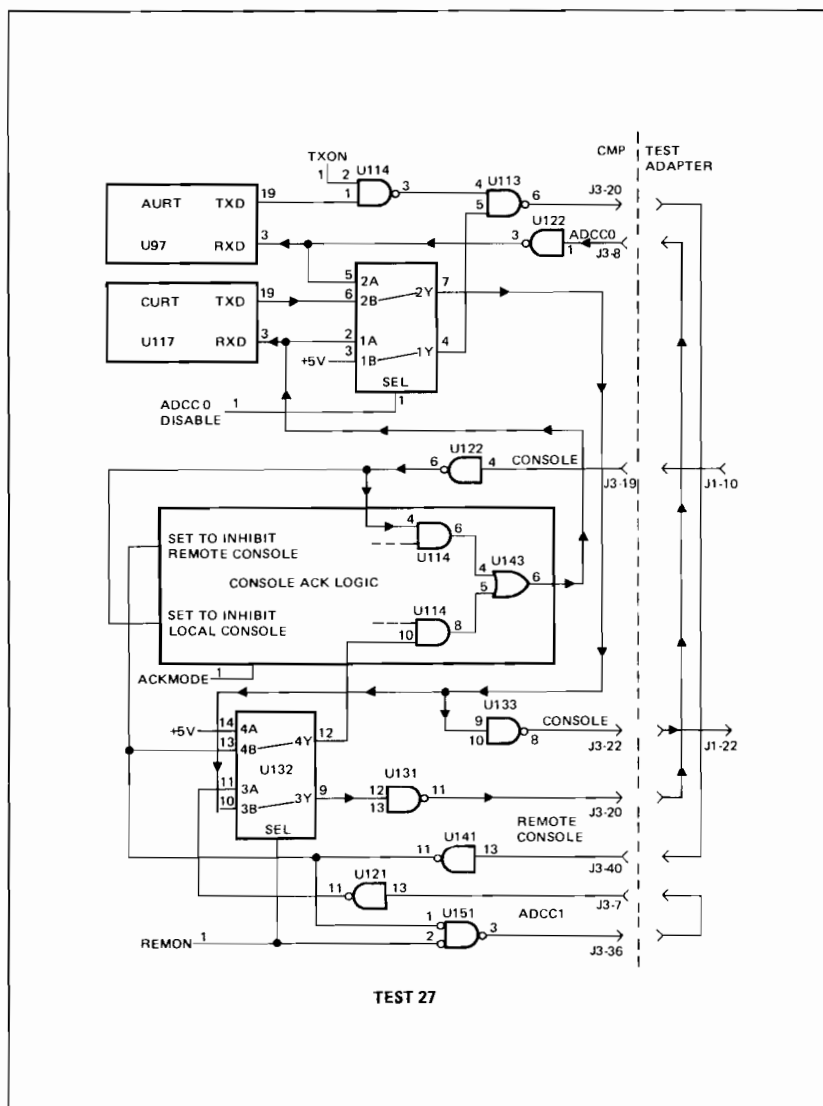

Figure 3-16. Data Comm Test Step 27
- 27 The ACK circuitry was pre-conditioned by step 26 to allow data from the console to be received by the AURT in this step. (See Figure 3-16.)